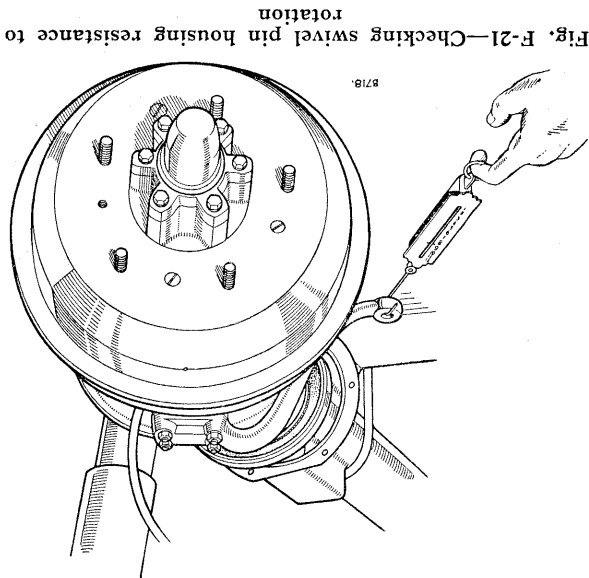

Fig. F-21—Checking swivel pin housing resistance to rotation
16. Using a suitable spring balance as shown at Fig. F-21, add or subtract shims at the top only until a figure of 14-16 lb. (6.25-7.25 kg) is obtained.